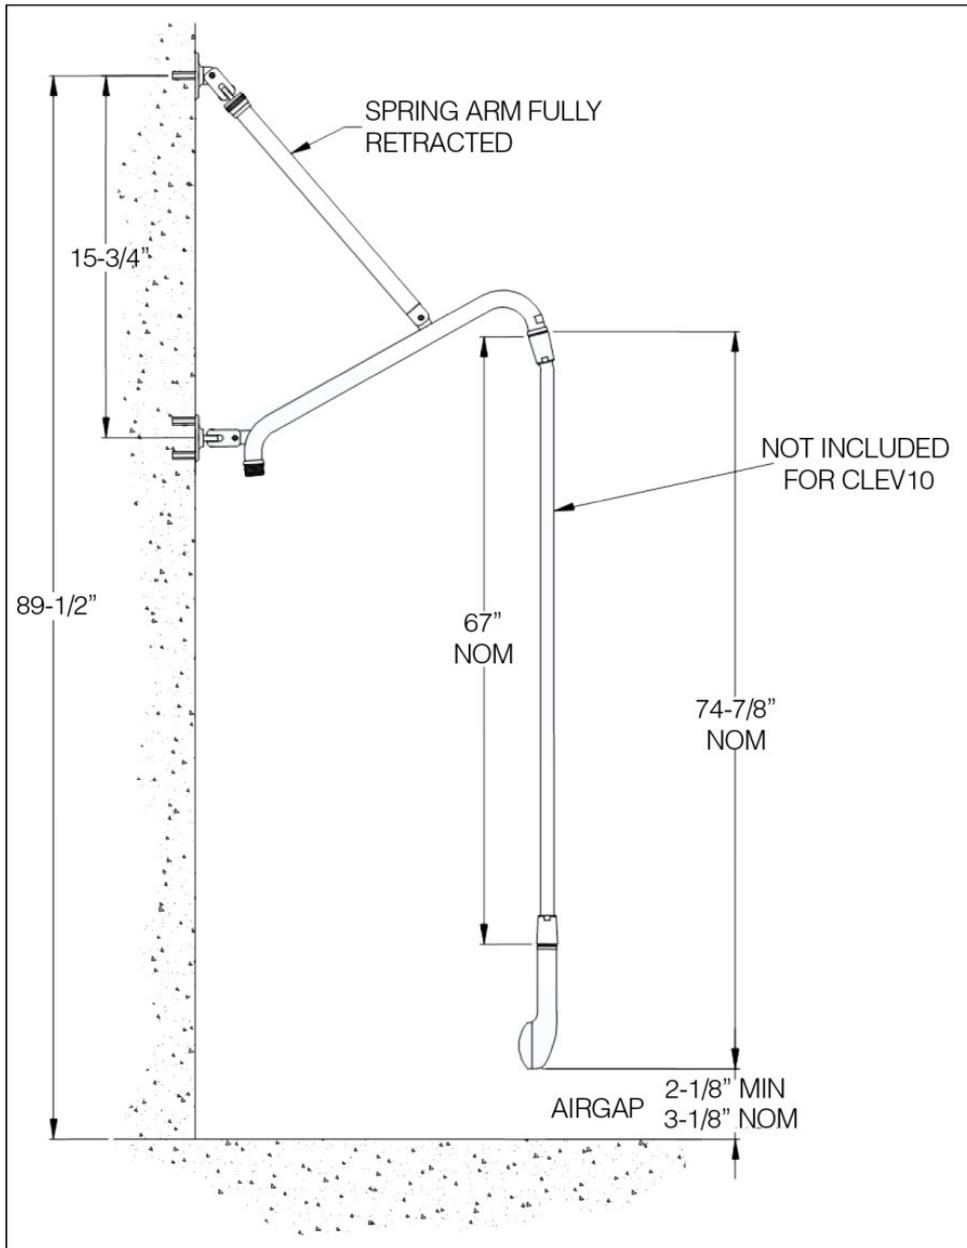

FIG 1. TYPICAL MOUNTING DISTANCE FROM THE FLOOR
1. Mark the height of the top flange centre-point by measuring vertically 89-1/2" (2275mm) above the floor (see Fig 1). Then measure approx. 5-7/8" (150mm) horizontally to the left or right (depending on the position of the shower recess) of the centre of the existing supply fitting (see Fig 2). Drill 2 holes $\varnothing 5/16"$ x 2" deep ($\varnothing 8$ x 50mm), 1-1/2" mm apart (see Fig 2) to suit the top flange.
- i. To comply with back flow prevention standards, the hand spray must hang at least 55mm above the floor to provide an 'air-gap' (see Fig 1 and Fig 3). If the hand piece lies on the floor, Then an appropriate backflow prevention device must be installed.